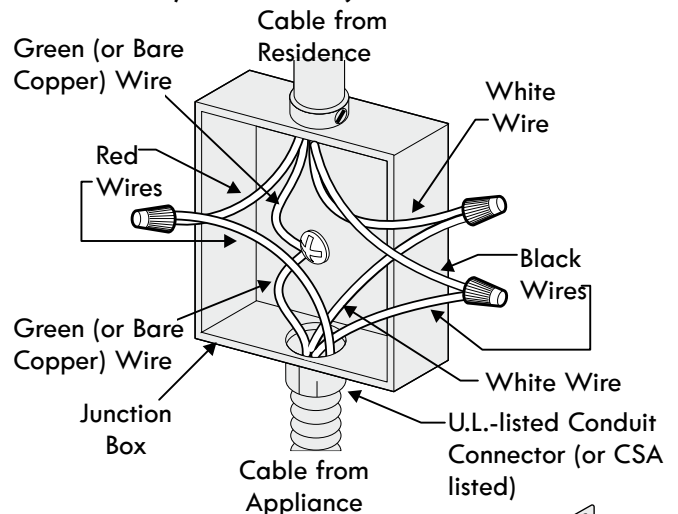

Figure 11
Where local codes **DO NOT** permit connecting the appliance-grounding conductor to the neutral (white) wire, or if connecting to 4-wire electrical system (see Figure 11):
3. In the circuit breaker, fuse box or junction box (Fig. 11):